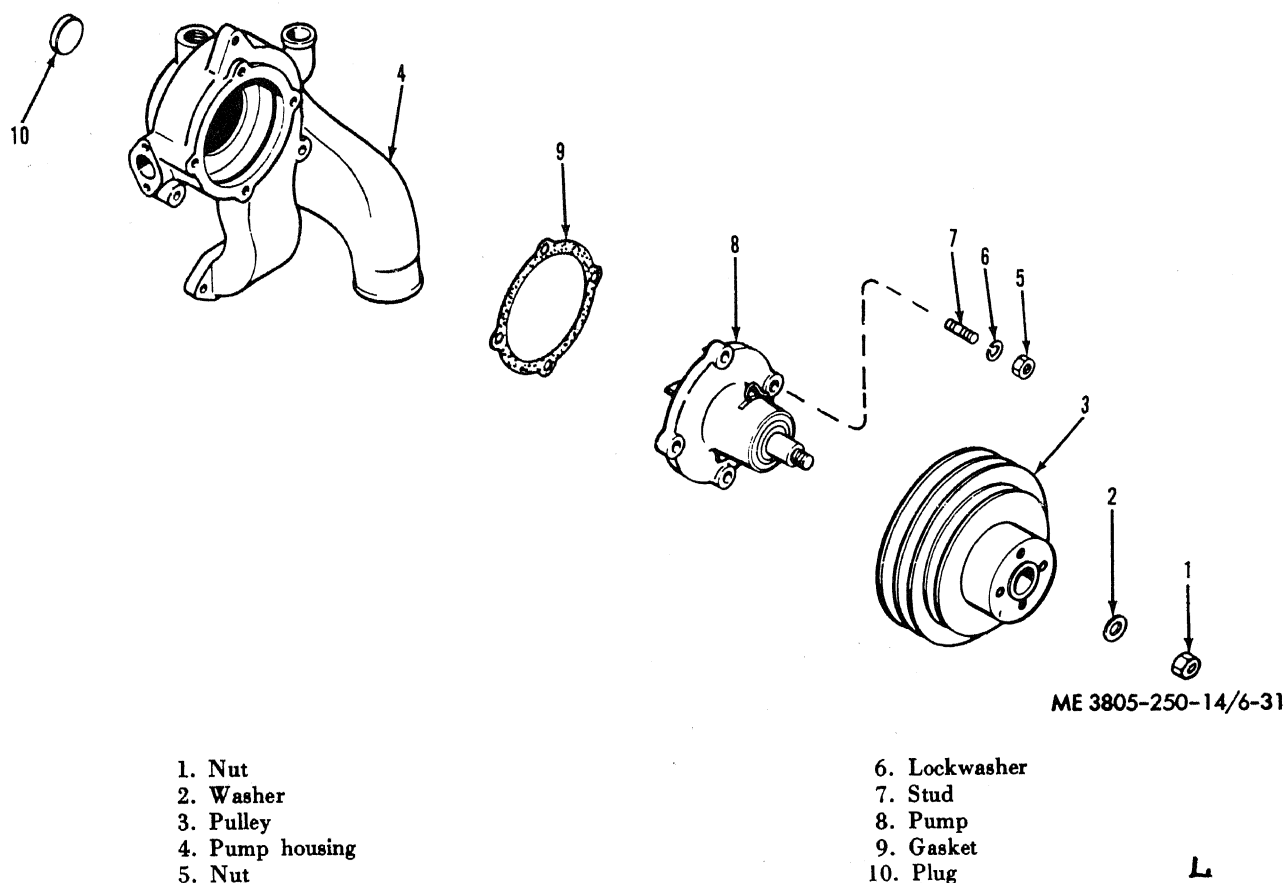

Figure 6-31. Water pump, exploded view.
b. Disassembly. Refer to figure 6-31.
(1) Remove the nut (1) and washer (2) securing the pulley (3) to the pump housing (4). Use a puller to remove the pulley from the pump shaft.
(2) Remove four nuts (5), lockwashers (6) and studs (7) securing the pump (8) to the housing. Discard the mounting gasket (9).
(3) Remove the plug (10) from the rear of the pump housing.